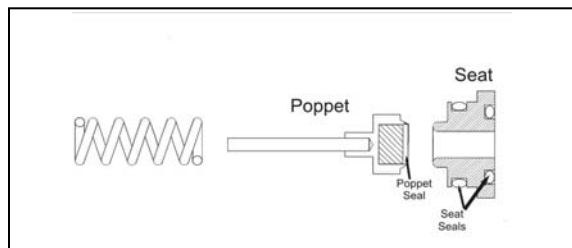

Figure 9
- Replace the seals on the seat (see Figure 9).